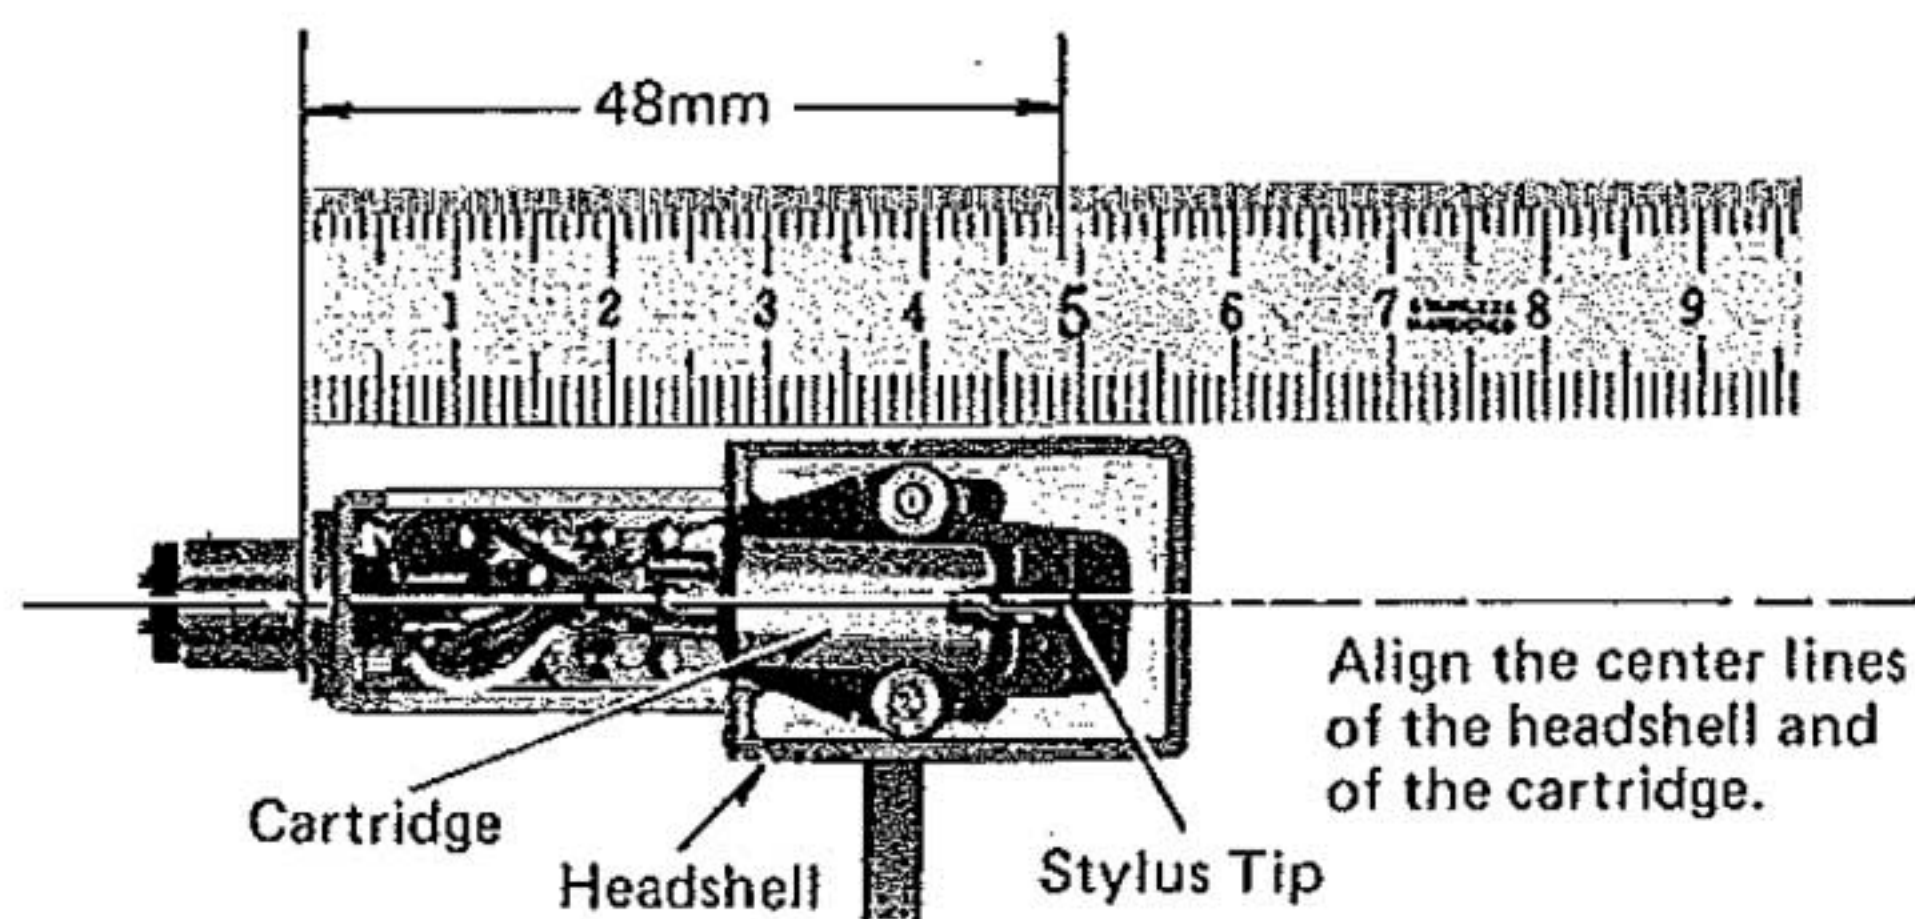

Fig. 5
- **Overhang Adjustment (Fig. 5)**
To obtain optimum overhang, when mounting the cartridge, first align the cartridge's longitudinal axis to that of the headshell and position the cartridge so that the distance between the headshell's end face and the stylus tip equals 48 mm as shown in Fig. 5.